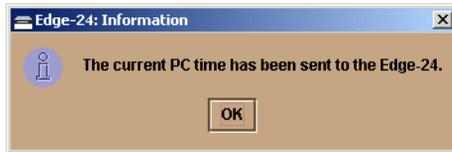

Figure 2–31: Date and Time Synced dialog box
- Click **Sync Now** to synchronize the switch and HAFM application immediately. The **Date and Time Synced** dialog box displays, as shown in Figure 2–31.